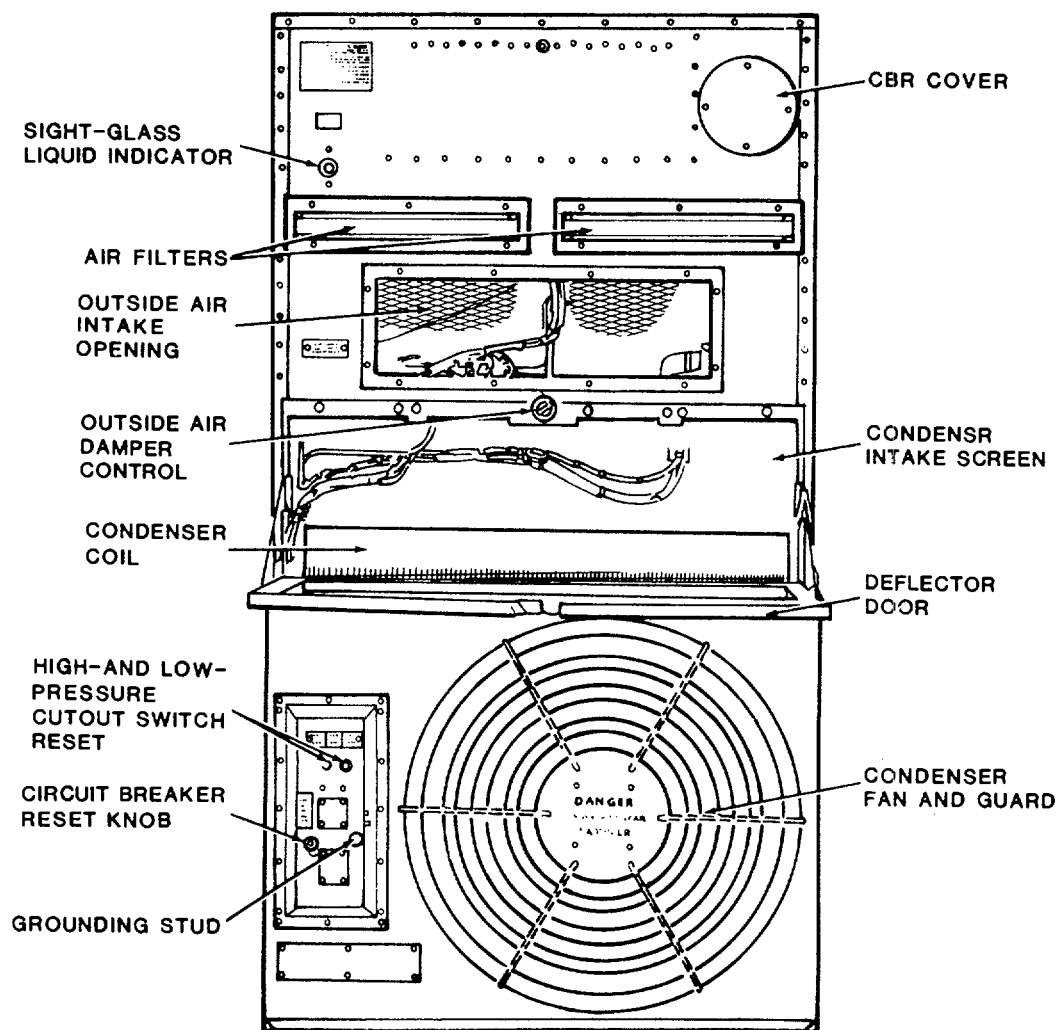

Figure 1-3. Location Major Components (Rear)
a. **Deflector doors.** (See Figure 1-3). The deflector door is located above the round condenser fan guard at the bottom of the rear surface of the air conditioner. The door encloses the condenser coil, and helps to seal out cold air, rain or snow during the heating season. During the cooling season, the open deflector door prevents recirculation of heated exhaust air into the condenser coil area. The deflector door must be open during operation of the air conditioner in the cooling mode.